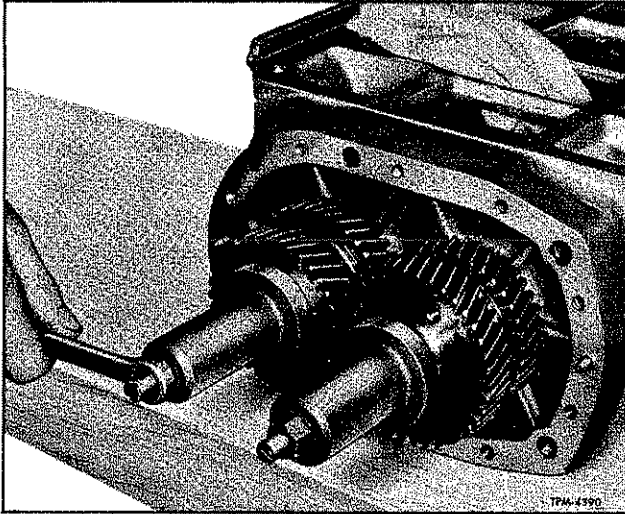

Figure 30—Installing Blower Reduction Gears
2. Use J-6270-7 installer and J-6270-8 screw to force lower reduction gear (fig. 30) solidly against inner drive gear.